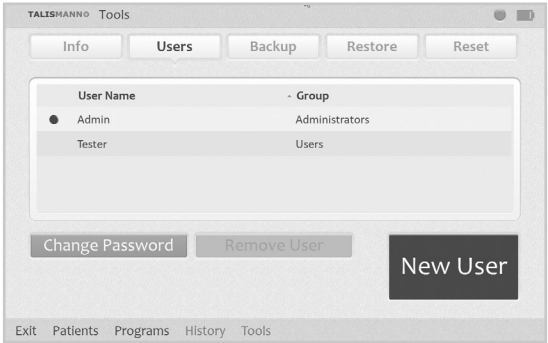

Figure 10-2: Adding a user/administrator
1. Press "Tools" on the Menu Bar, press the Users Tab and then press the "New User" button. See Figure 10-2.